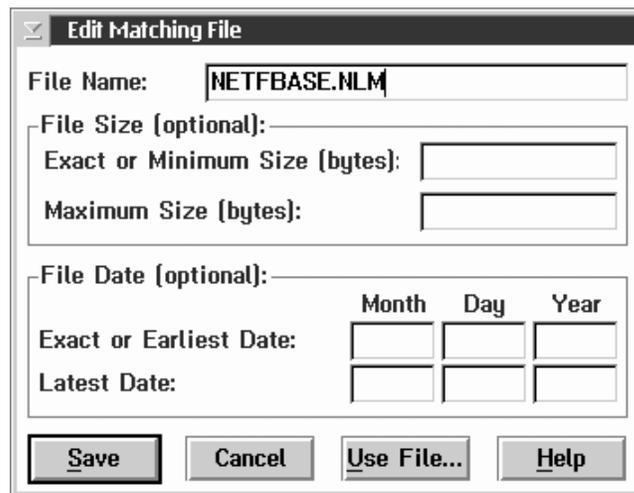

Figure 101. The Edit Matching File window
- c. **Optional:** In order to differentiate between different releases or versions of an individual product, you might need to specify that particular files were created on or after a specific date, or that the file is a certain size or within a range of sizes. If you want Software Inventory to look for files that are a specified size or within a range of sizes, or that were created on a specific day or during a specific date range, select the file from the **Matching Attributes** field and then select **Edit** to open the Edit Matching File window (see Figure 101 on page 327). Specify the **File Size** and **File Date** information, and then select **Save** to continue.